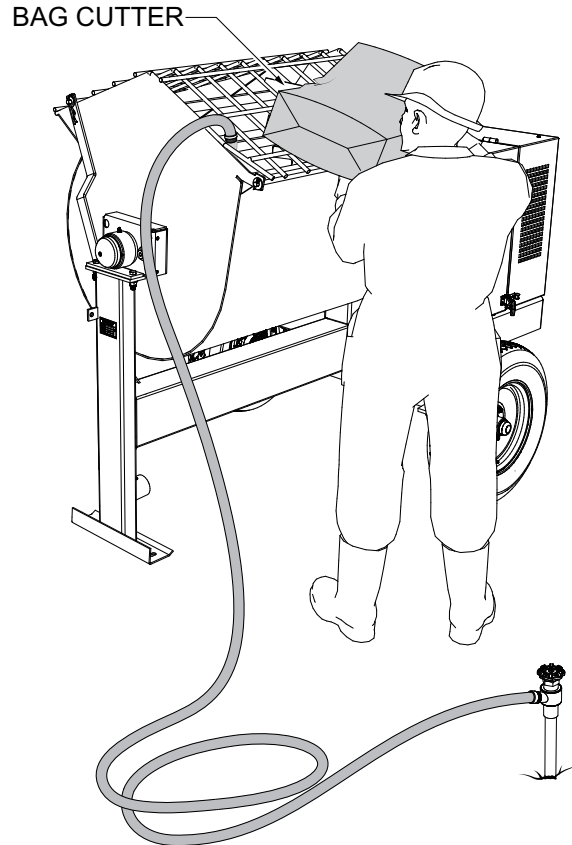

Figure 19. Filling Mixing Drum
3. Add a small amount water to the mixing drum (Figure 19).
4. Lift the mixing bag compound (Figure 19) onto the steel safety grate over the **bag cutter** and let the contents fall into the drum. Add more water if desired and mix compound to desired consistency.